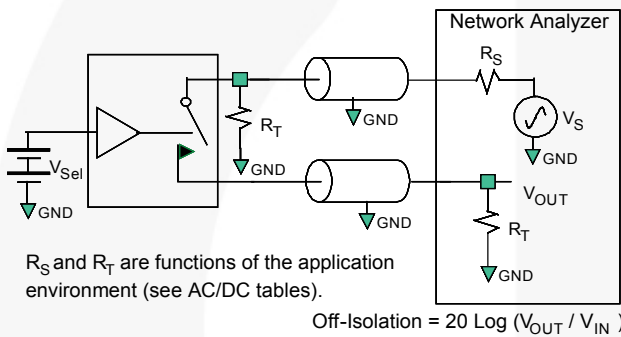

**Figure 3. On Resistance**
| $R_{ONUSB}$  | High-Speed USB Range Switch On Resistance (4)  | $V_{DP\_CON} / V_{DM\_CON}=0\text{ V}$ , 0.4 V; $I_{ON}=8\text{ mA}$ ; Figure 3; $V_{BUS}=4\text{ V to }6\text{ V}$      |      | 4.5  | 6.0  | $\Omega$      |